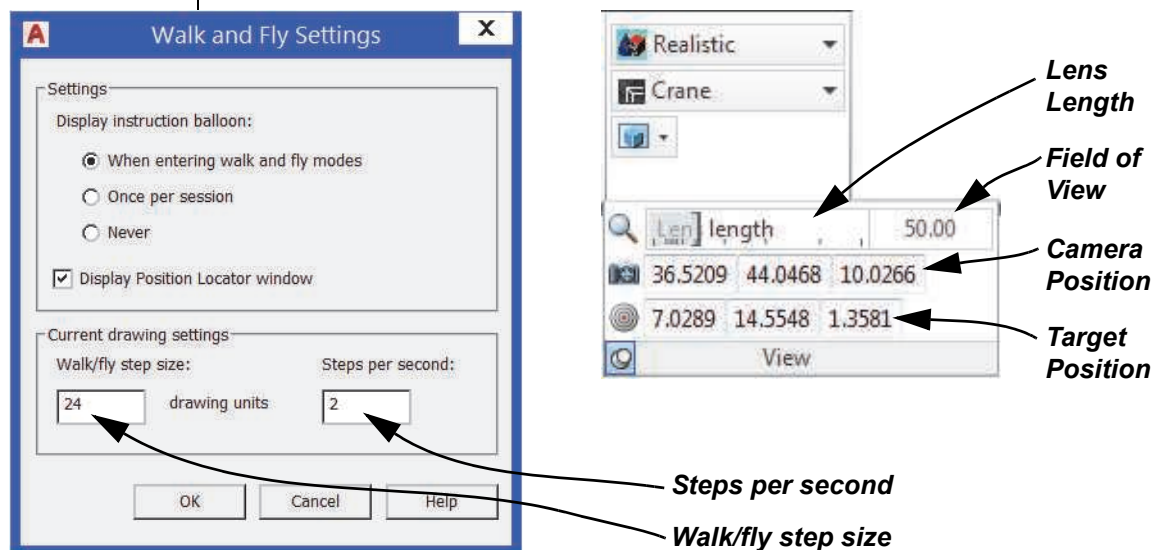

Figure 8–47
- In the Walk and Fly Settings dialog box, you can enter values for the *Walk/fly step size* and *Steps per second*, as shown in Figure 8–47. When you are far away from the objects in your drawing, you can have a larger step size and more steps per second. However, when you get closer to the objects, you need to slow down. For example, if you want to fly over a building, you need to go fairly quickly with longer steps. However, when you are inside the building, you need to have shorter steps and fewer steps per second.